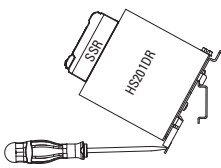

fig. 4 DIN Rail Mounting
- For DIN Rail Mounting install as shown in **fig.4**. Vertical mounting operation is recommended.